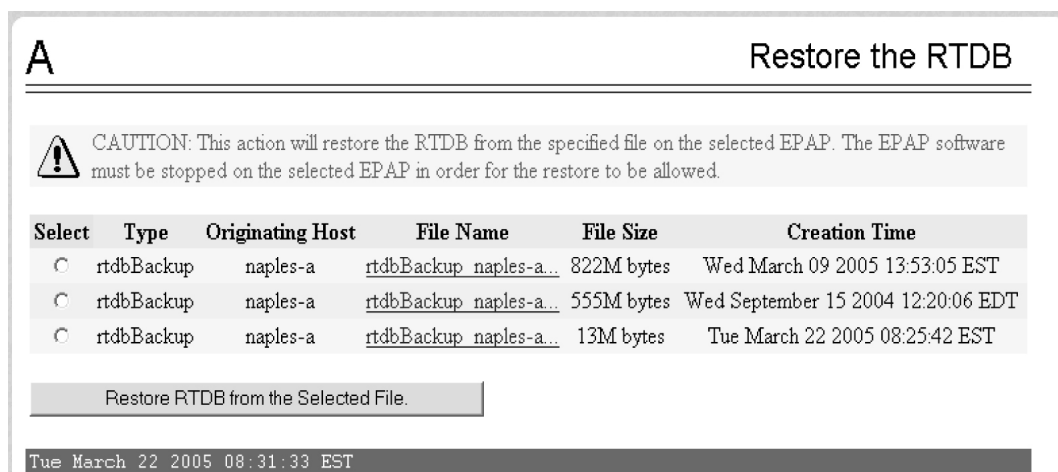

Figure 21: Restoring the RTDB
6. Select **RTDB>Maintenance>Restore RTDB**. The screen shown in *Figure 21: Restoring the RTDB* displays:
7. On the screen shown in *Figure 21: Restoring the RTDB*, select the file that was transferred in *List item..*. Click **Restore the RTDB from the Selected File**.